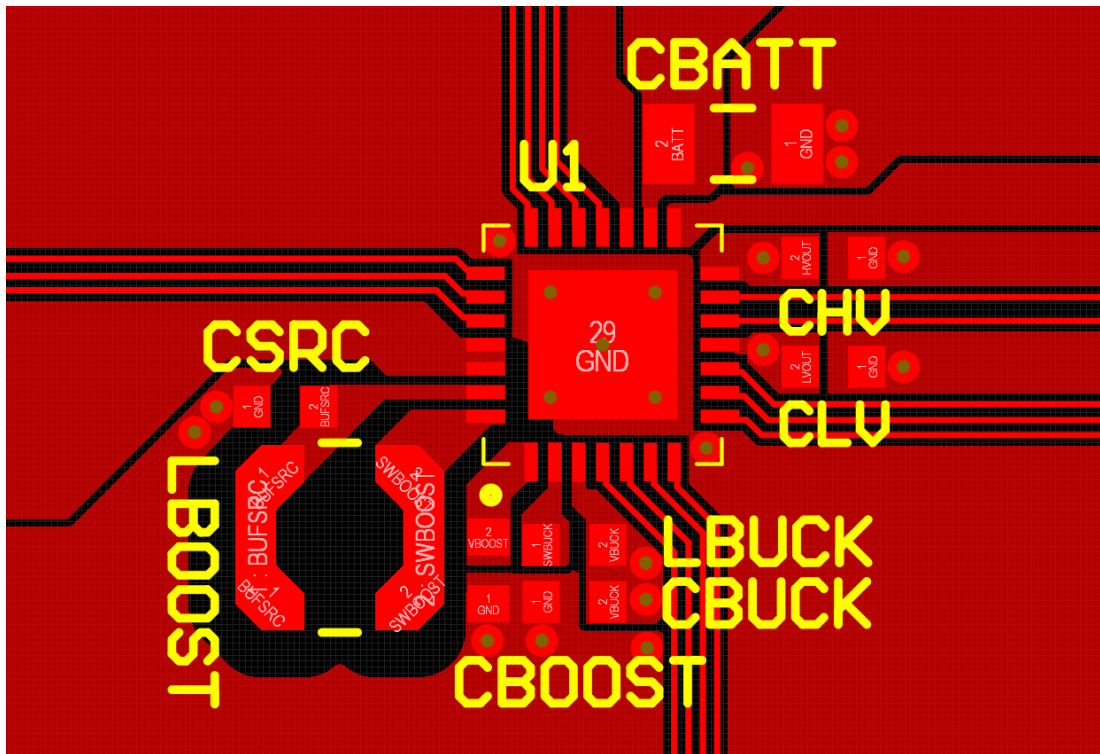

Figure 25: Layout example for the AEM10941 and its passive components
- The switching nodes (**SWBOOST** and **SWBUCK**) must be kept as short as possible, with minimal track resistance and minimal track capacitance. Low resistance is obtained by keeping track length as short as possible and track width as large as possible between these switching nodes and the AEM10941 pins. Minimal capacitance is obtained by maintaining a large distance between the switching nodes and other signals. We recommend removing the ground plane, the power plane and the bottom layer ground pour under **L_{BOOST}** and **L_{BUCK}** footprints, as well as adding distance between **BUFSRC/SWBOOST** and the top ground pour, as shown in Figure 25.
- The **GND** return path between the decoupling capacitors and the AEM10941 thermal pad, which is the AEM10941 main **GND** connection, must be as direct and short as possible. This is preferably done on the top layer when possible, otherwise by internal/bottom plane, using low resistance vias to decrease layer-to-layer connection resistance. In Figure 25, this **GND** return path is done on an internal plane.